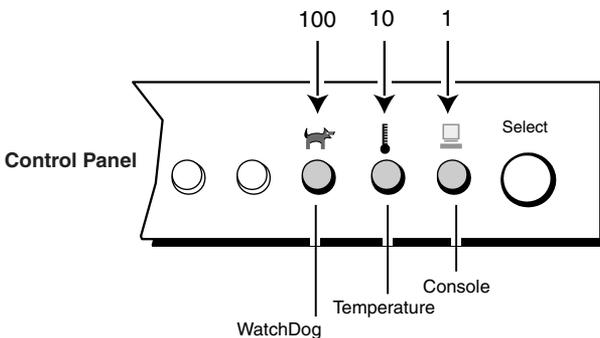
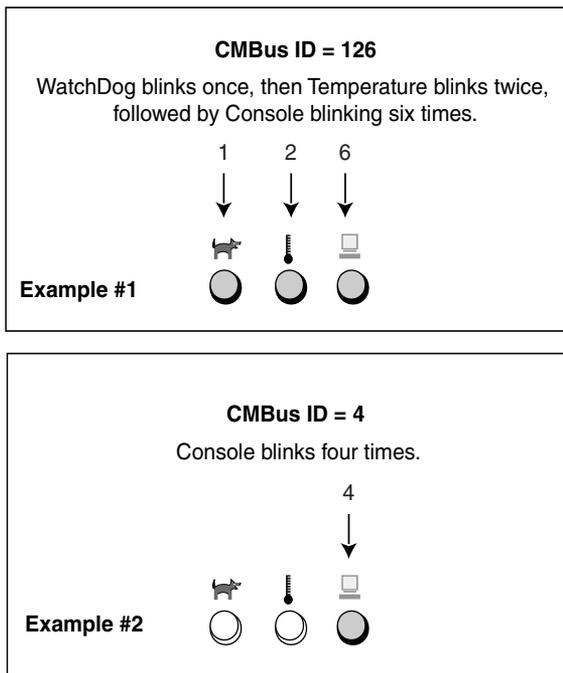

Figure 11. Counting Scheme for Determining CMBus IDs
Figure 12. Examples—Determining CMBus IDs
The *CMBus ID* is a one- to three-digit number (e.g., 4, 23, 126) that corresponds to the CMBus address acquired by the WebEngine during its initial startup. While a WebEngine is running, you can determine its CMBus ID through a sequence of blinking LEDs on the right side of the control panel—the WatchDog, Temperature, and Console. Starting with the WatchDog, each LED blinks a specific number of times to represent each of the corresponding digits of the CMBus ID—the WatchDog LED represents 100s, the Temperature LED represents 10s, and the Console LED represents 1s. This counting scheme is shown in Figure 11.
2. Starting with the WatchDog LED, count how many times each LED blinks, using the counting scheme shown in Figure 11. Refer to the examples in Figure 12.